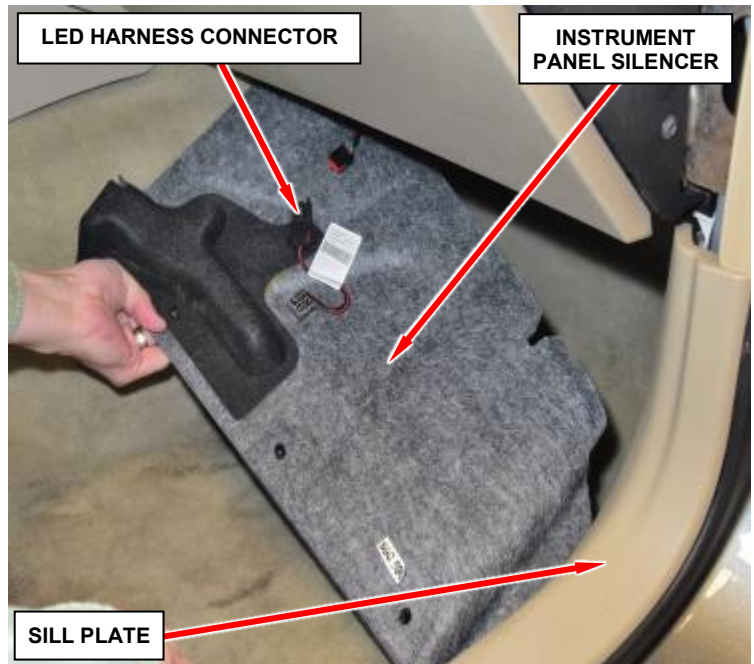

Figure 8 – Instrument Panel Silencer
- b. Remove the right side sill plate (Figure 8).
- c. Remove the three pushpins that secure the instrument panel silencer to the instrument panel (Figure 8).
- d. Disconnect the harness connector(s) and remove the right side instrument panel silencer (Figure 8).